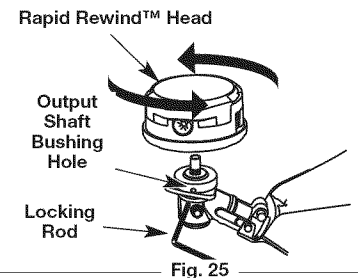
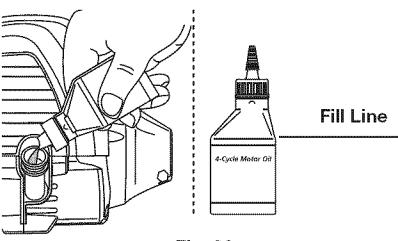

Fig. 25
Fig. 32
1. Align the output shaft bushing hole with the locking rod slot and insert the locking rod into the shaft bushing hole (Fig. 25).
3. Screw the cutting head counterclockwise onto the output shaft. Tighten securely. (Fig. 25) Remove the locking rod.
NOTE: Use the bottle and spout saved from initial use to measure the correct amount of oil. The top of the label on the bottle measures approximately 3.04 ounces (90 ml) (Fig. 32). Check the level (Fig. 25). If the level is low, add a small amount of oil and recheck. Do not overfill.